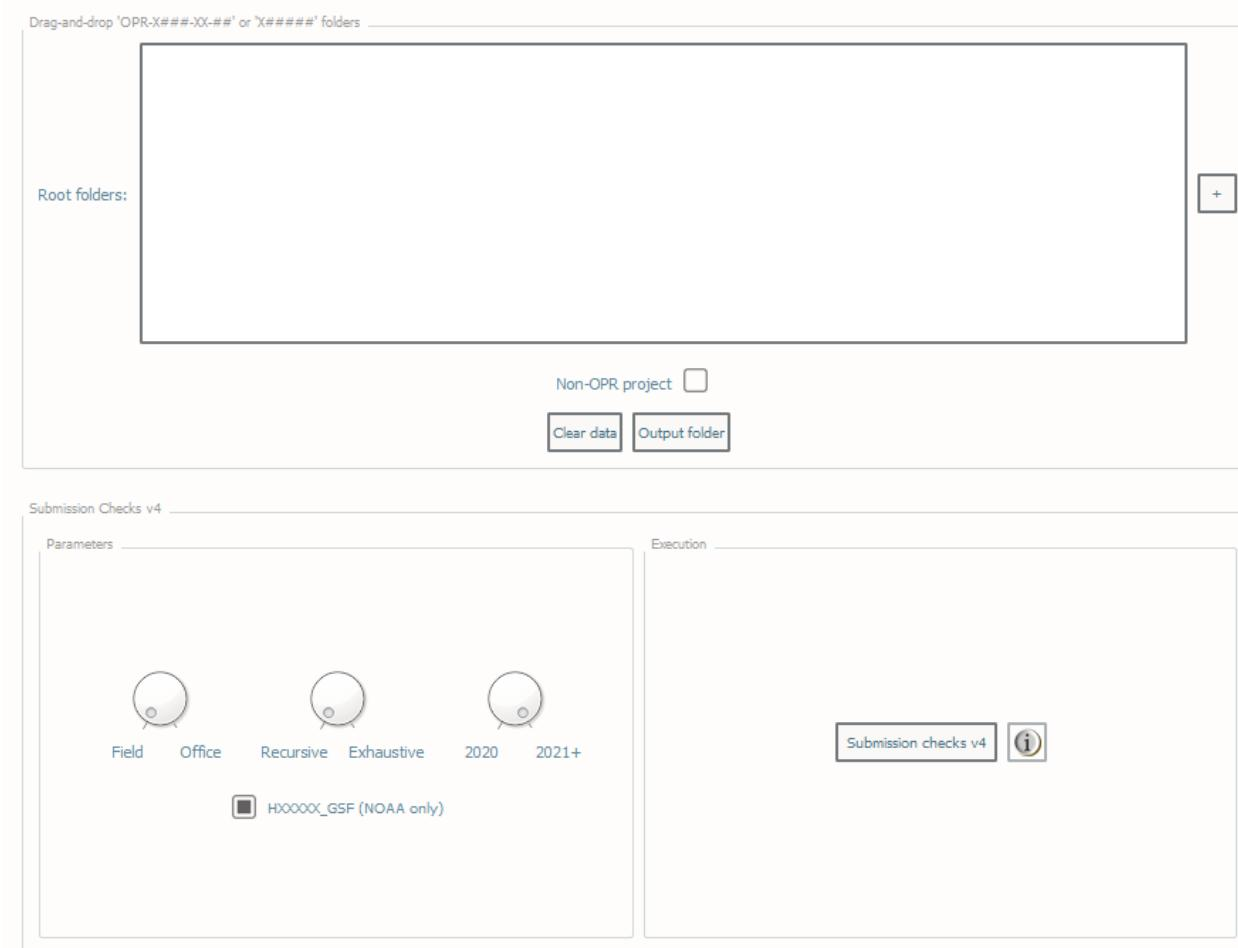

Fig. 2.59: The **Submission check** interface.
- In **Parameters** (Fig. 2.59, left side):
- In **Execution** (Fig. 2.59, right side), click **Submission checks v4**.